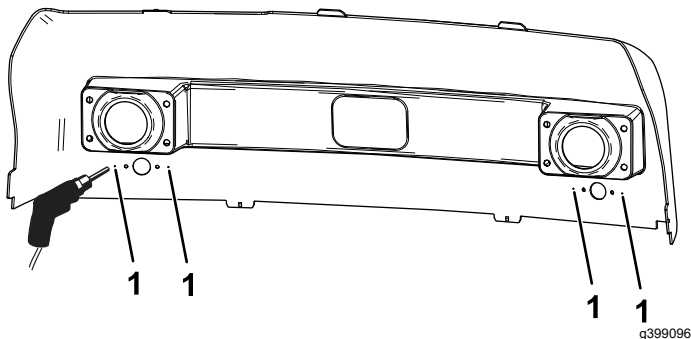

Figure 22
2. On the inside of the hood, locate the 4 dots next to the turn signal light holes and drill 6 mm (1/4 inch) diameter holes as shown in Figure 22.